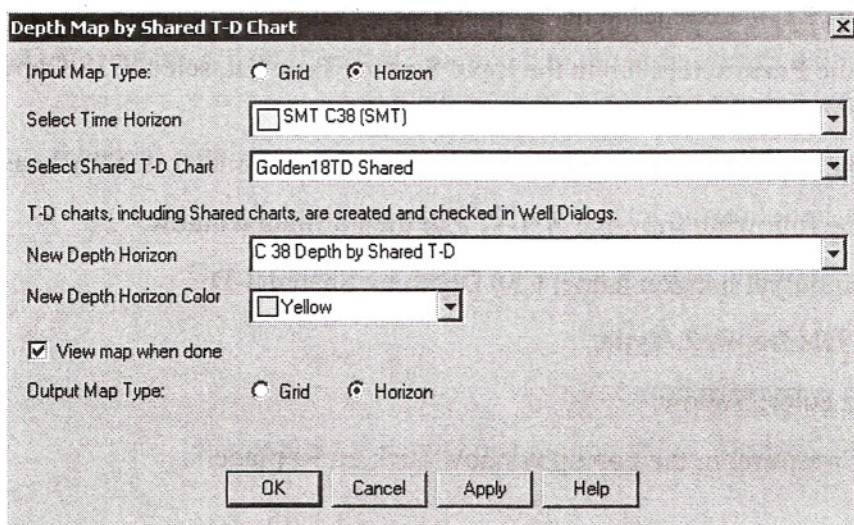

Figure 5.1 — Depth Map by Shared T-D Chart dialog box
1. Select **Tools > Depth Conversion > Depth Map by Shared T-D Chart** (Figure 5.1).
2. In the dialog box that opens, enter the information as shown in Figure 5.1.